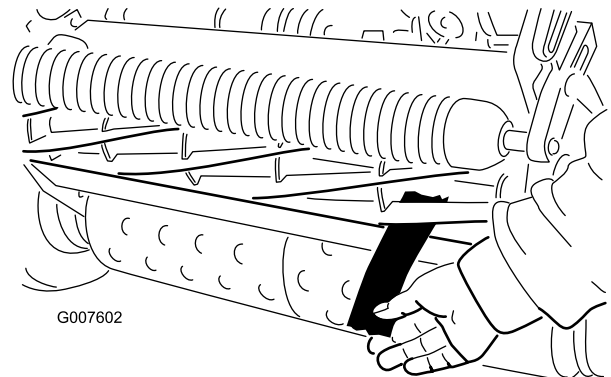

Figure 47
11. Test the cutting performance by inserting a long strip of cutting performance paper between the reel and bedknife, perpendicular to the bedknife (Figure 47). Slowly rotate the reel forward; it should cut paper.